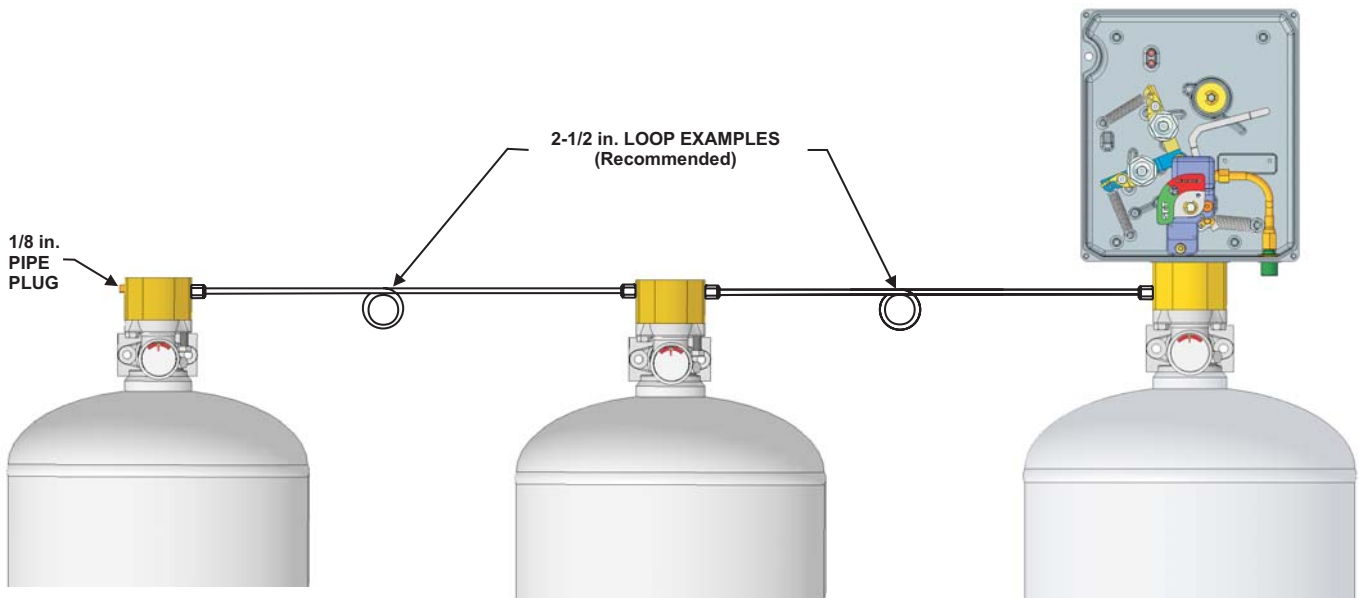

Figure 4-16. Example of Copper Tubing Loop Method
7. For multiple cylinder installations, install 1/8-inch NPT (M) x 1/4 copper tubing adapters. Compression type adapters are permissible.
8. For multiple cylinder installations, measure and install the 1/4 O.D. x 0.031 wall thickness copper tubing. A 2-1/2-inch (64 mm) loop between each cylinder and on the inlet tubing is recommended, but not required. See Figure 4-16. Ensure that each connection is secure.